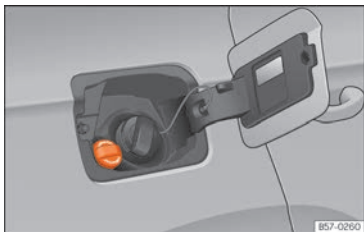

Fig. 238 AdBlue tank cap.
- Open the tank cover »» Fig. 238.
- Turn the bottle in a counter-clockwise direction and gently pull it upwards »» ①.
- Turn the SCR tank cap anti-clockwise »» Fig. 238.